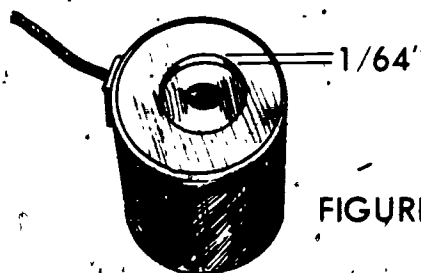

FIGURE 4
1. Adjust the solenoid plungers (Figure 4)